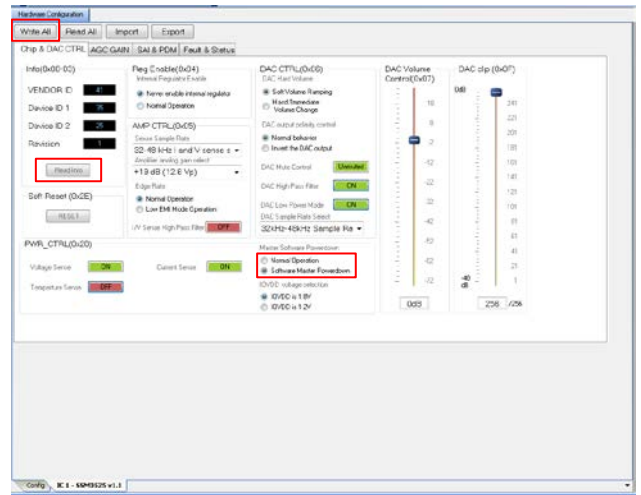

Figure 5. Chip & DAC CTRL Tab
13. Click the **IC-1SSM3525** tab. If you click the **Read Info** button, the **35** appears in the **Device ID 1** field, **25** appears in the **Device ID 2** field, and the die revision number appears in the **Revision** field. See Figure 5.